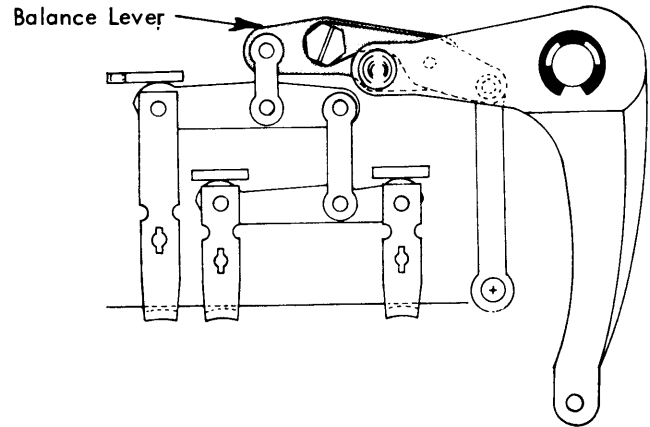

FIGURE 57. Balance Lever Adjustment
9. Balance Lever - With the machine in upper case loosen the lock nut on the balance lever and move the right hand member of the balance lever (Fig. 57) left or right until a half-cycled +5/-5 combination detents (coarse aligns) the same as a half-cycled letter "T". The combination can easily be obtained by holding the negative-5 latch interposer forward with the fore finger while striking the letter "B" with the thumb (a letter "T" will result).